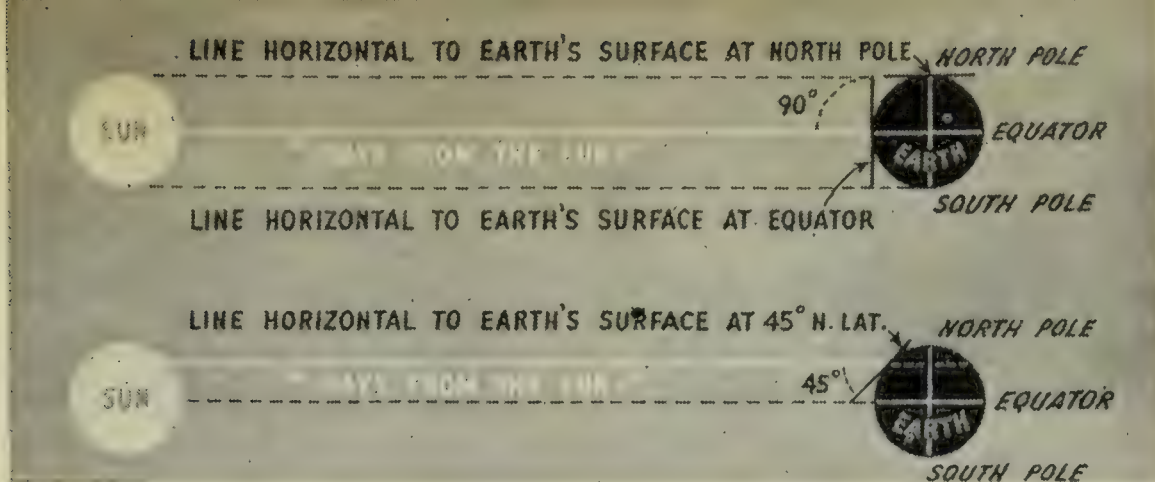

FIG. 506. How latitude is determined at two different places when the sun is directly over the equator
The latitude is determined by means of the sextant. You know that on September 23 and March 21 the sun is directly over the equator at noon. (See pages 436-437.) It therefore makes an angle of  $90^\circ$  with the horizontal (Figure 506). If you were located at the North Pole on these days, the sun's rays would be horizontal; that is, you would see the sun by sighting directly along the horizon. If you were halfway between the equator and the North Pole, that is,  $45^\circ$  latitude, the angle of the sun's rays would make an angle of  $45^\circ$  with the horizontal (Figure 506). Therefore on these two days the latitude may be determined by simply measuring the angle of the sun's rays with the horizontal at 12 noon and subtracting it from  $90^\circ$ .
7. A ship captain made the following observations of his position on the twenty-third of September: ship time, 12 noon; Greenwich time, 9 A.M.; position of sun at noon,  $22^\circ$ . What were the latitude and longitude of the ship? (See Figure 506.)